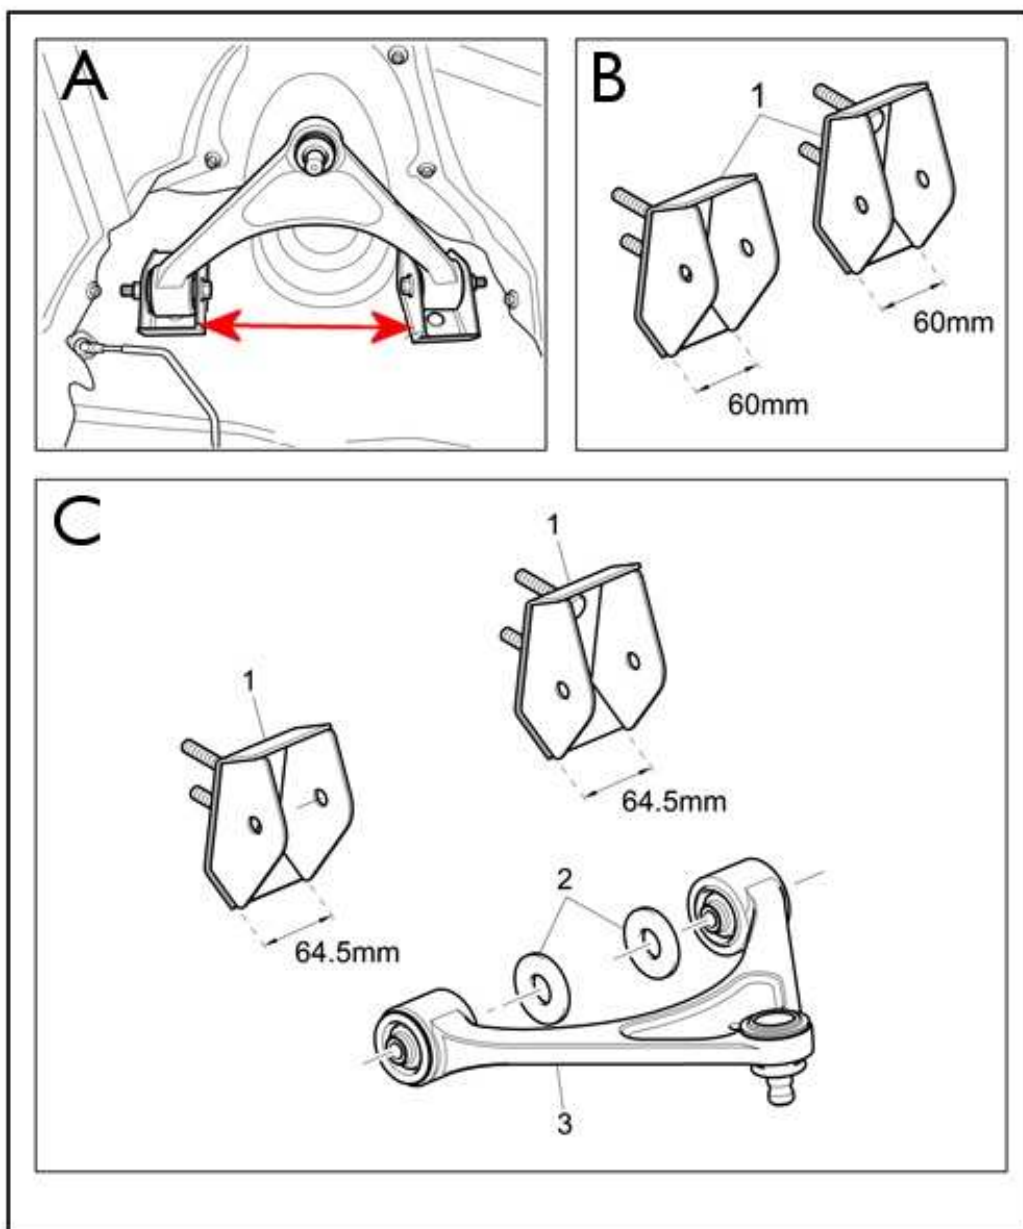

Figure 2
Referring to Figure 2 (box A) the inner dimension of the mounting brackets have increased
1. Referring to Figure 2 box C, replace the right and left hand side upper wishbone brackets -1-